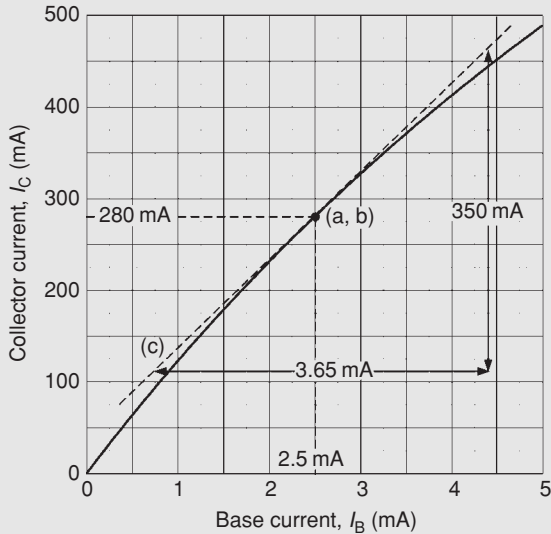

Figure 12.15
**Problem 5.** Figure 12.15 shows the transfer characteristic for an n-p-n silicon transistor. When the base current is 2.5 mA, determine (a) the value of collector current, (b) the static value of current gain, and (c) the dynamic value of current gain.
- (a) From Fig. 12.15, when  $I_B = 2.5$  mA, **collector current,  $I_C = 280$  mA** (see point (a, b) on the graph)
- (c) In Fig. 12.15, the tangent through the point (a, b) is shown by the broken straight line (c). Hence,